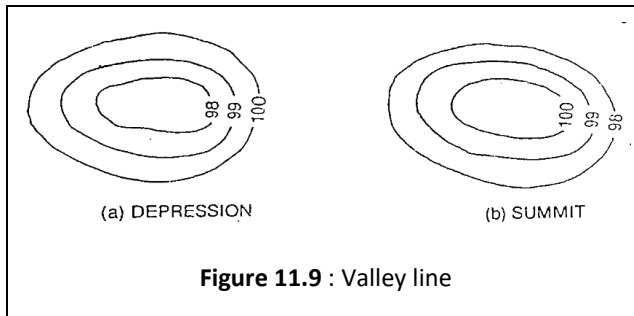

Figure 11.9 : Valley line
- A series of closed contours always indicates a depression or summit. The lower values being inside the loop indicates a depression and the higher values being inside the loop indicates a summit (Fig. 11.9).